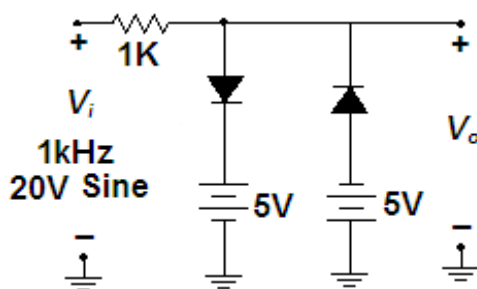

Fig: 6
1. Connect the circuit as shown in fig 6.